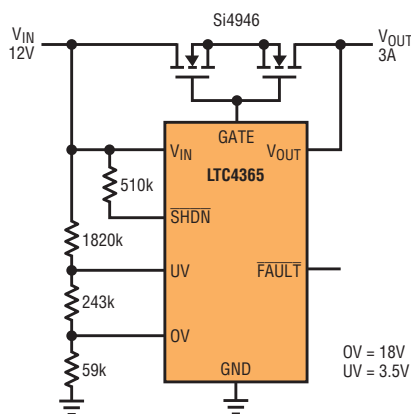
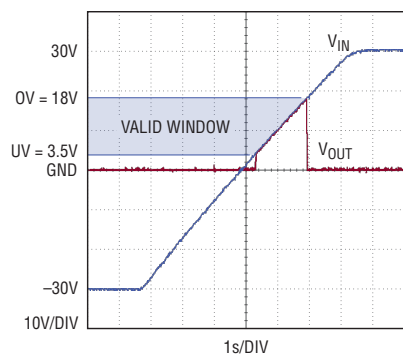

Figure 1. Complete 12V automotive undervoltage, overvoltage and reverse-supply protection circuit
Figure 2. Load protection as V_{IN} is swept from -30V to 30V
Figure 1 shows a complete application. A resistive divider sets the overvoltage (OV) and undervoltage (UV) trip points for connecting/disconnecting the load from V_{IN} . If the input supply wanders outside this voltage window, the LTC4365 quickly disconnects the load from the supply.
Figure 2 shows how the circuit of Figure 1 reacts as V_{IN} slowly ramps from -30V to 30V. The UV and OV thresholds are set to 3.5V and 18V, respectively. V_{OUT} tracks V_{IN} when the supply is inside the 3.5V–18V window. Outside of this window, the LTC4365 turns off the N-channel MOSFET, disconnecting V_{OUT} from V_{IN} , even when V_{IN} is negative.